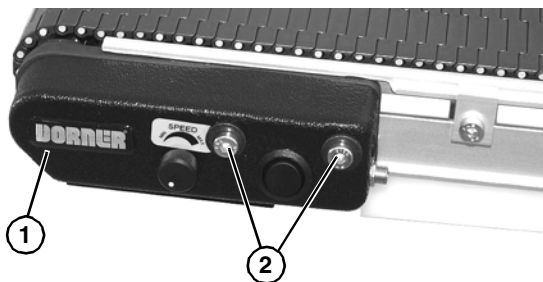

Figure 61
7. Install inframe drive side cover (Figure 61, item 1) with two head plate fastening screws (Figure 61, item 2).